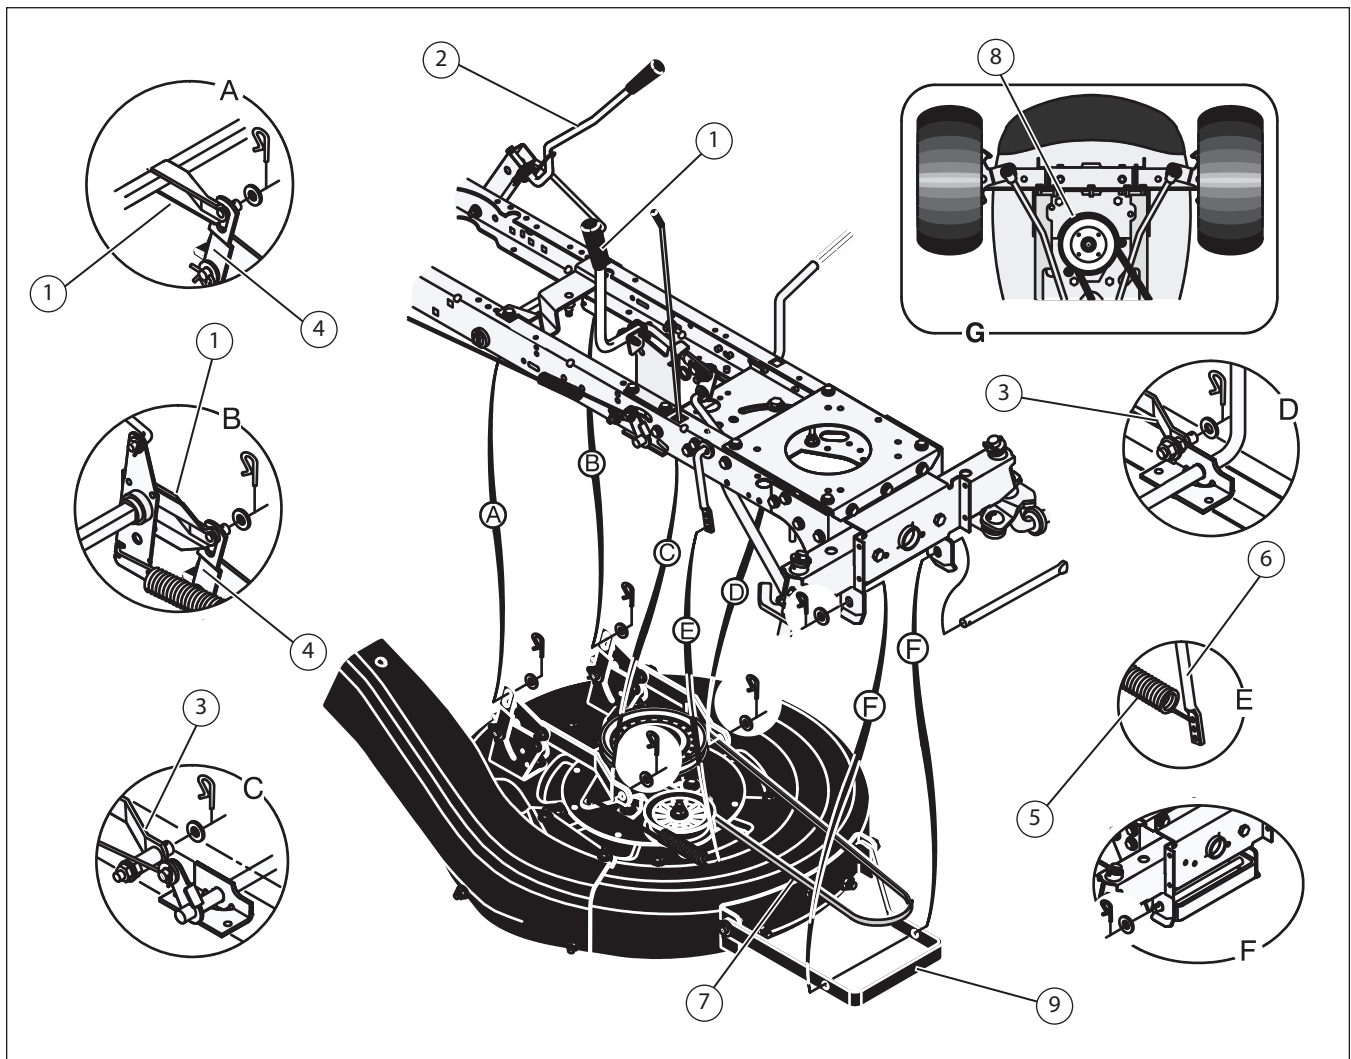

Figure 37
- Move the blade rotation control (1) to the DIS-ENGAGE position (see **Figure 37**).
- Move the lift lever (2) to the lowest position.